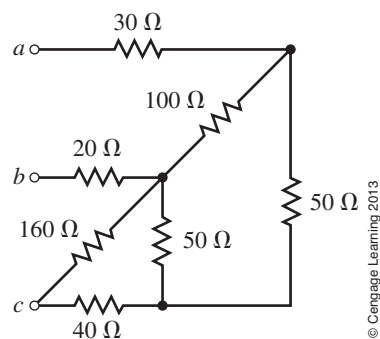

FIGURE 7–53
11. Refer to the circuit of Figure 7–54.